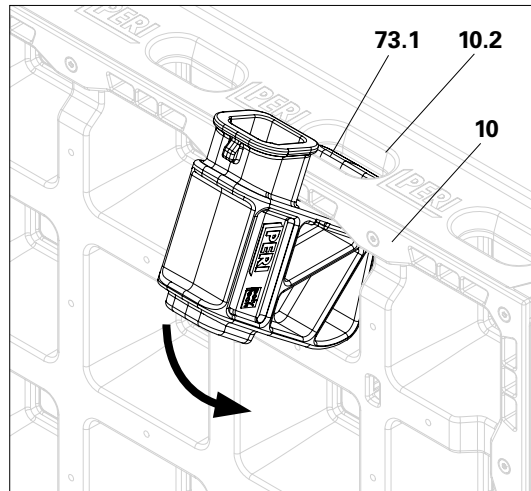

Fig. B4.06
1. Position the bracket (73.1) of the DUO front post holder (73) at the grip hole of the DP panel (10.2). (Fig. B4.06)